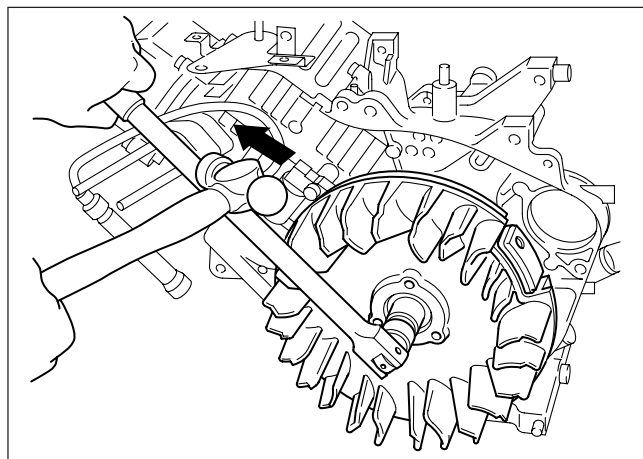
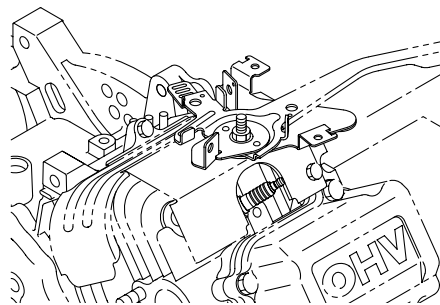

Fig. 5-9
Fig. 5-10
| 13 | Flywheel | (1) Remove the starting pulley. (2) Remove nut from crankshaft. (See Fig. 5-9.) (3) Remove flywheel using the flywheel puller. (See Fig. 5-10.) (4) Remove the key from crankshaft. (See Fig. 5-11.) | M8 x 12 ; 3 pcs. M18 nut, washer, spring washer |